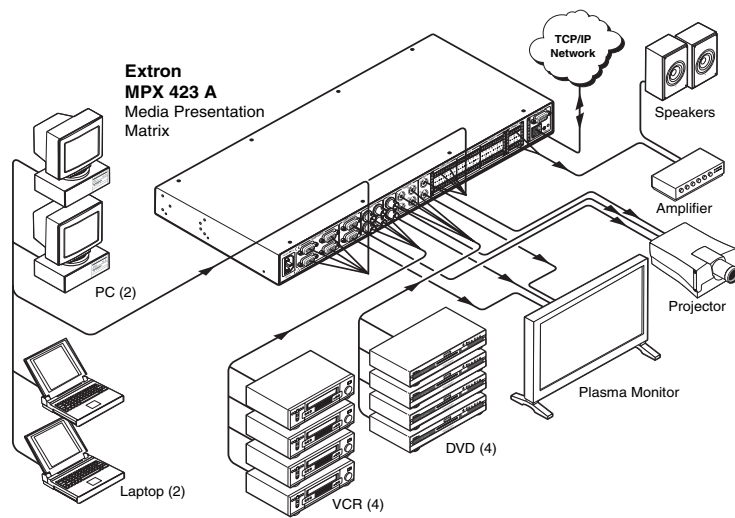

Figure 2-4 — MPX 423 A installation example
Follow the steps below and see the installation example in figure 2-4.
- ① Turn off power to the MPX 423 A matrix switcher and all other devices that will be connected.
- ② If the MPX 423 A matrix switcher is to be rack, table or furniture mounted, position the brackets and insert the mounting screws. See the *Mounting the Matrix Switcher*, earlier in this chapter.
- ③ Attach up to four VGA, four composite video, and four S-video, input devices to the MPX 423 A matrix switcher.
- ④ Connect the switcher's VGA, Video (composite), and S-video outputs (up to six, two of each video format) to the inputs of the display(s).
- ⑤ For audio input, connect up to 12 audio sources to the switcher's audio inputs of the VGA, Video (composite), or S-video groups (up to 4 for each group). See figure 2-4 for a connection diagram.
- ⑥ For audio output, connect an audio output device to each of the two audio outputs. See *Audio outputs* in chapter 3, *Operation* for wiring diagrams.
- ⑦ If the MPX 423 A matrix switcher is to be connected to a computer or host controller for remote control, connect the host's RS-232 cable to the 9-pin female RS-232 connector of the MPX unit. For an RS-232 pinout table, see the *RS-232 and Ethernet Control* later in this chapter.
- ⑧ For an Ethernet connection, plug one end of a Cat 5, straight-through Ethernet cable to the RJ-45 LAN port of the switcher. See *RS-232 and Ethernet Control* later in this chapter for pinout instructions.
- ⑨ Power up the input and output devices, then connect power to the rear AC connector of the MPX 423 A matrix switcher.